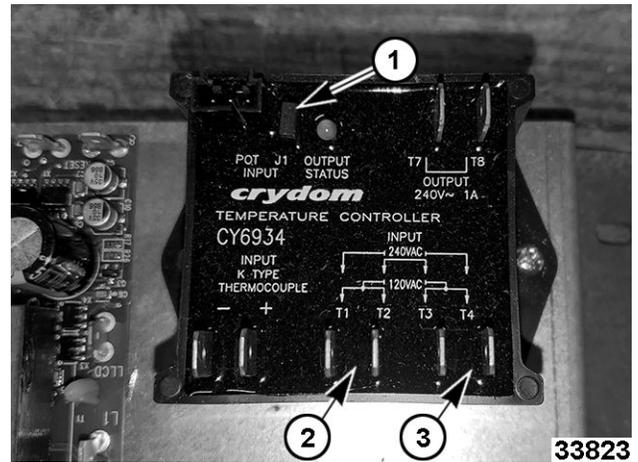

Fig. 12
### 2ND GENERATION TEMPERATURE CONTROLLER SHOWN IN Fig. 12
- Item 1 shown in Fig. 12 is J1 jumper. REMOVE J1 jumper when installing a second generation temperature controller.
- Item 2 shown in Fig. 12 connection is both wires going to T1 and T2 equals L1 (HOT).
- Item 3 shown in Fig. 12 connection is both wires going to T3 and T4 equals L2 (NEUTRAL).